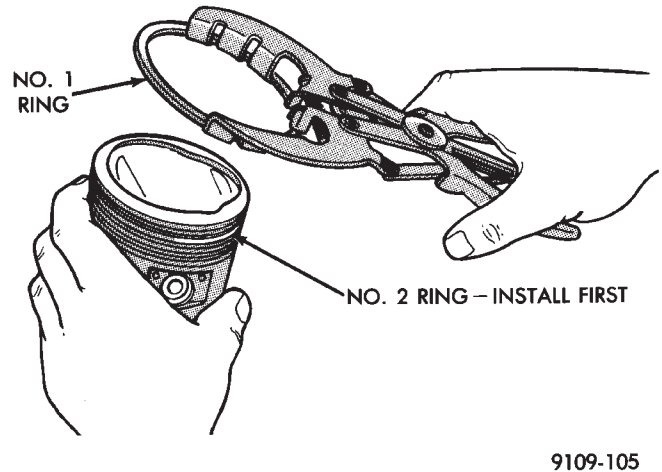

Fig. 10 Upper and Intermediate Rings—Installation
(3) Using a piston ring expander, install No. 2 piston ring and then No. 1 piston ring (Fig. 10).